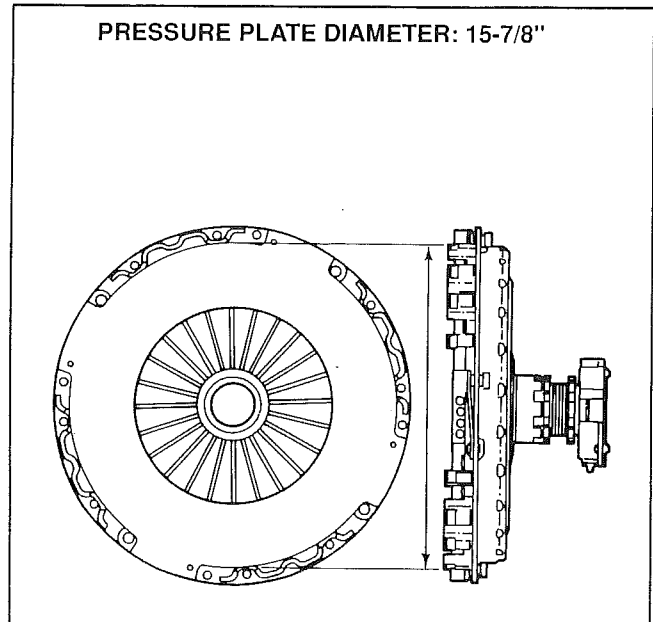

Figure 4-6. Measuring Points on Pressure Plate for 16-inch Clutch
- Measure the pressure plate diameter (Fig. 4-6).